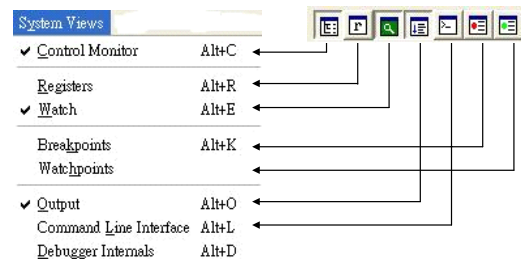
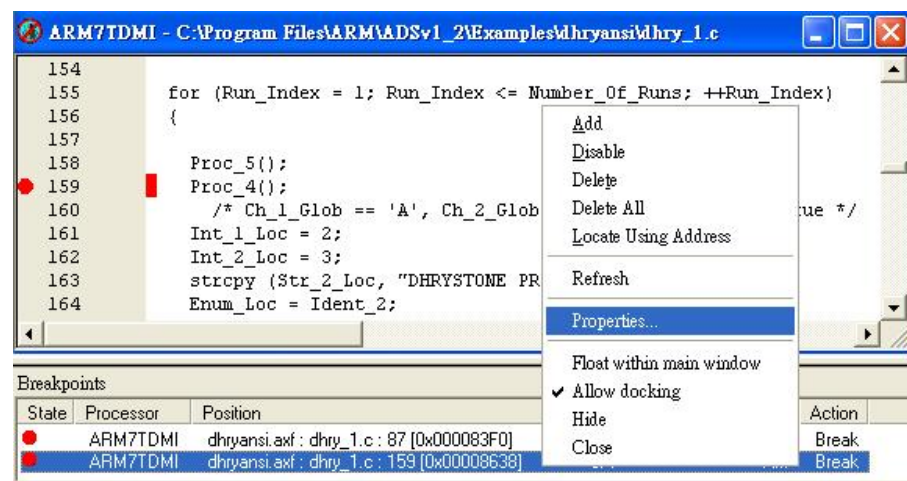
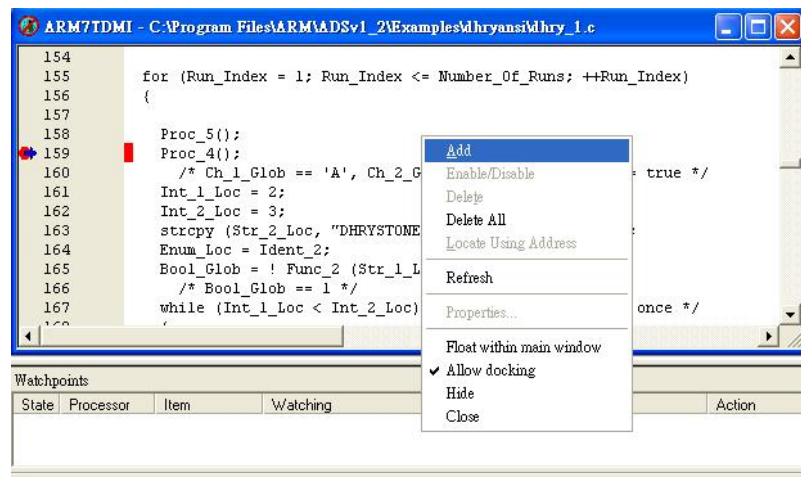
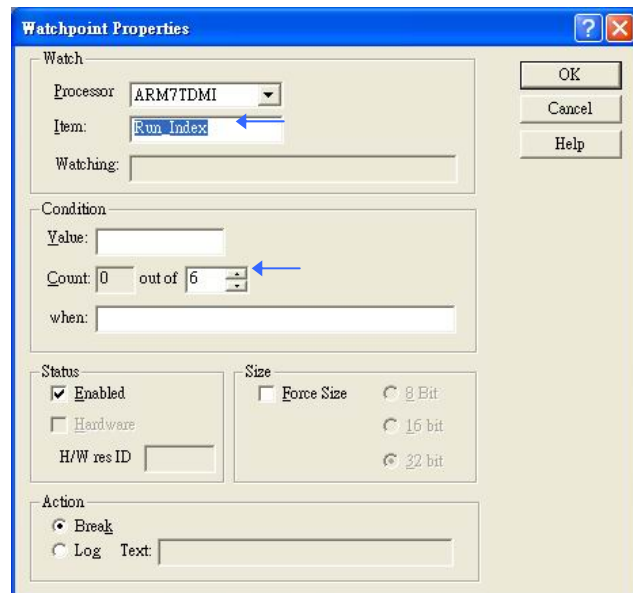

Figure 4. System View Menu and its corresponding Toolbar.
Figure 5. Breakpoints panel (the lower window).
Figure 9. Watchpoints from the System Views.
Figure 10. Watchpoint Properties dialog.
5. To edit the details of the new breakpoint, select **Breakpoints** from the **System Views** menu (Figure 4). The breakpoints panel is displayed (Figure 5).
- 5.1 Double-click on the line in the breakpoints panel that describes the new breakpoint, or right-click on it and select **Properties** (Figure 5), to display a **Breakpoint Properties** dialog.
5. Select **Watchpoints** from the **System Views** menu/toolbar (Figure 4), right-click in the Watchpoints system view (Figure 9), and select **Add** to display the Watchpoint Properties dialog (Figure 10).